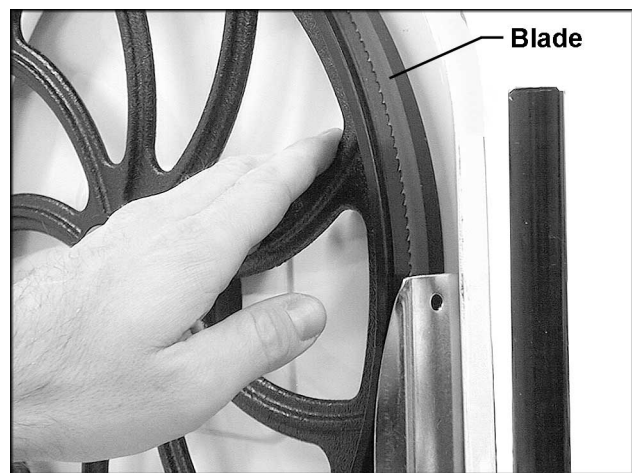

Fig. 17a
2. Open top blade cover. Rotate the wheel forward and observe the position of the blade on the wheel - it should be in the center of the wheel. See Fig. 17a.